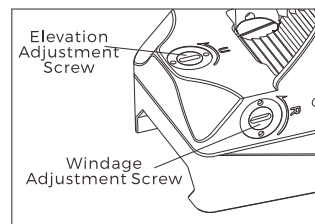

Fig 8
- 2) The Elevation adjustment is located on top of the tail section of the housing and the Windage adjustment is located on the right side of the housing. Adjustment can be performed by inserting the flat-tipped end of the included tool into the turret slot and rotating. See Fig 8.